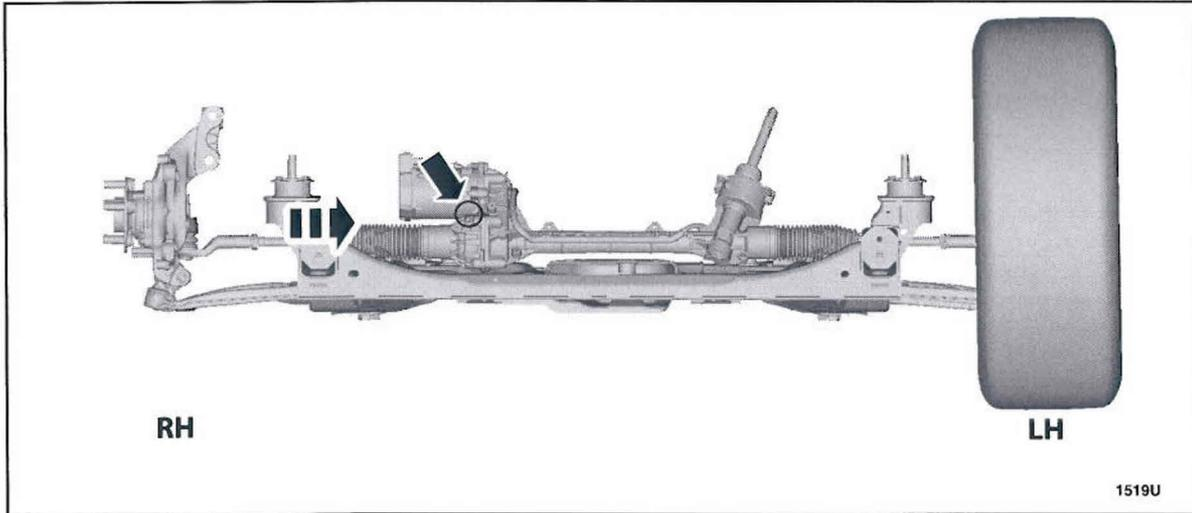

FIGURE 5
5. Working from inside the RH wheelwell, insert spray nozzle under motor and forward between motor and gear. Apply sealant to housing and gear motor seam, gear motor and housing bolt heads and threads. See Figures 5 and 6.